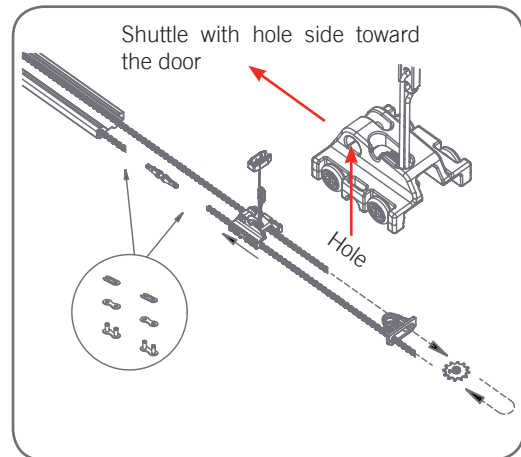

Fig. 06
- f. Slide the shuttle assembly into (opener end) the track assembly. Be sure to insert the shuttle assembly with the hole side toward the door as shown with arrow in **(Fig. 06)**. Push the sprocket support into the opener end of the track.